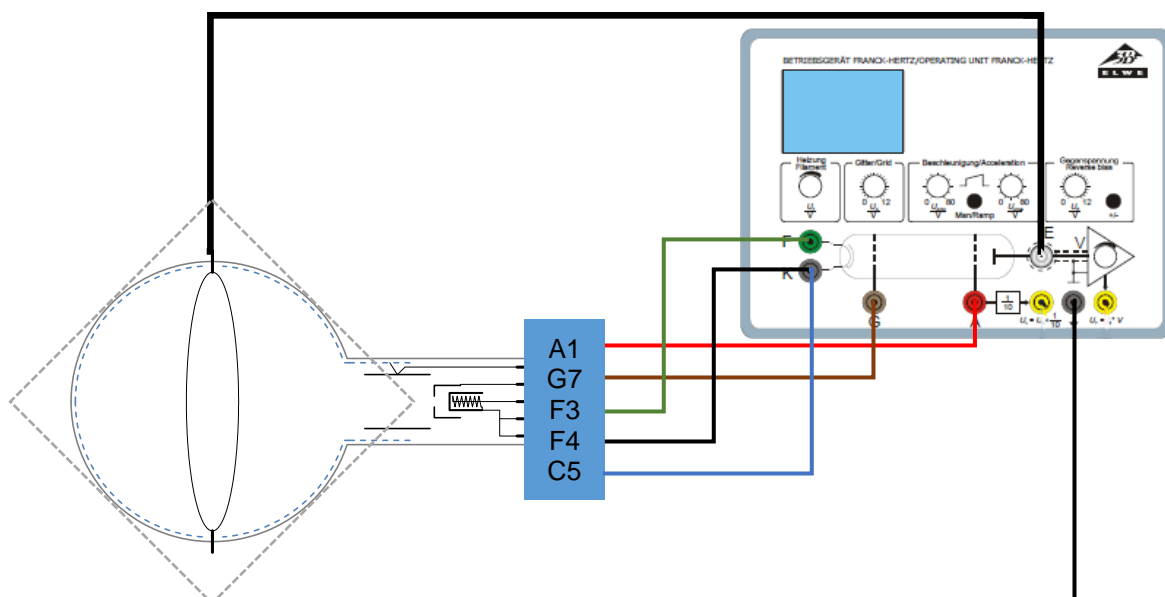
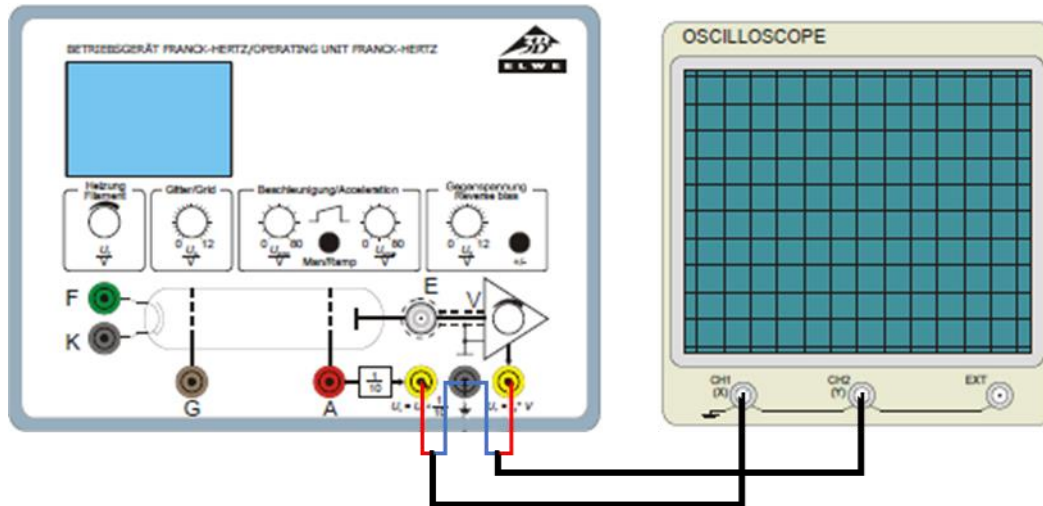

Fig. 2: Schematic layout of the experiment set-up by using the Franck-Hertz-power supply
Fig. 3: Electrical connection of an oscilloscope to the Franck-Hertz power supply
7.2 Experiment set-up (Fig. 2, Fig. 3)
- Connect output U_X of the Franck-Hertz power supply to input CH 1 of the oscilloscope (deflection in X) and output U_Y to input CH 2 (deflection in Y) (see Fig. 3).